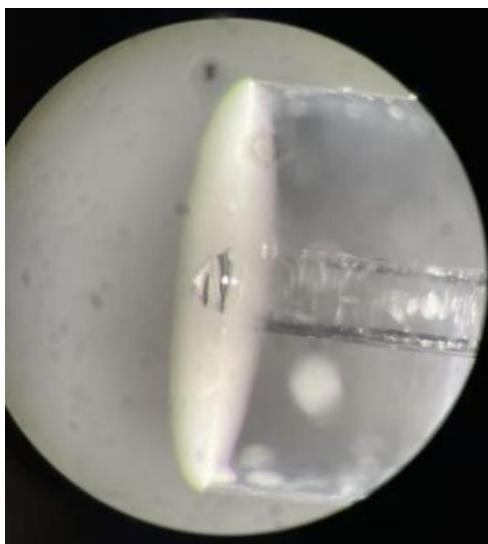

Figure 2.1 Photo of the fiber inserted into glass flange
Step 8. Carefully slide the glass flange on the micro-axicon tip end of the fiber with a tweezer under the stereoscope, until micro-axicon tip is slightly sticking out at the other end of the flange (Figure 2.1).